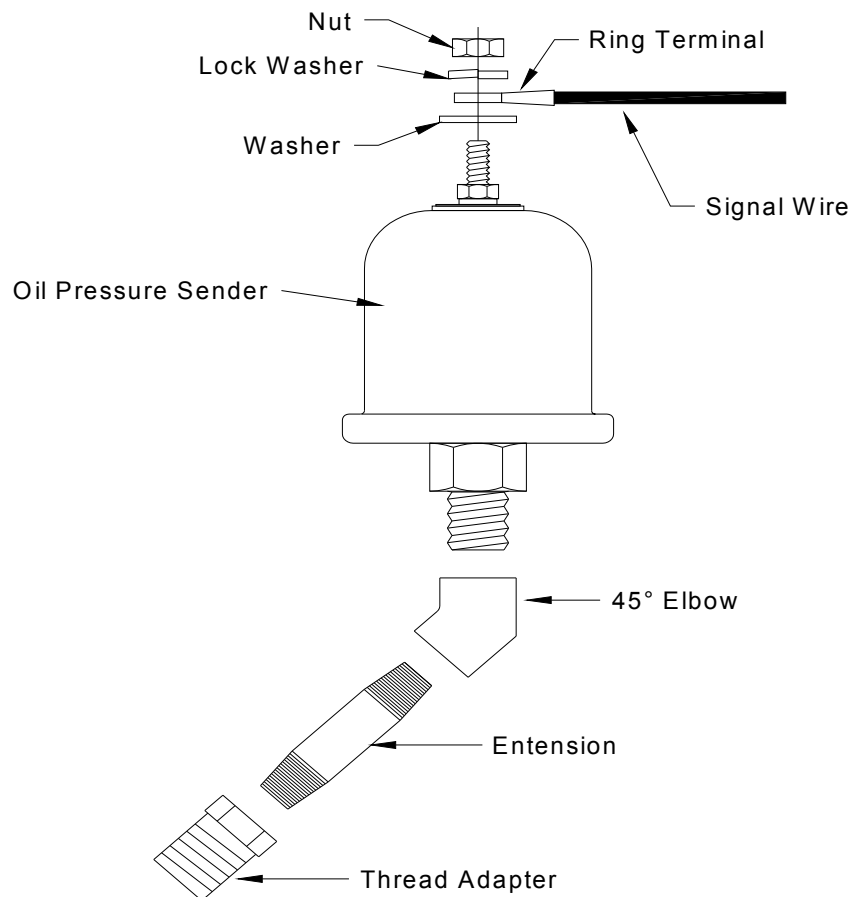

Figure 5: Connecting the oil pressure sender
- 2) Connect the oil pressure sender to the **dark blue** wire on the signal connector (position B) of the instrument wire harness. See Figure 5 below.